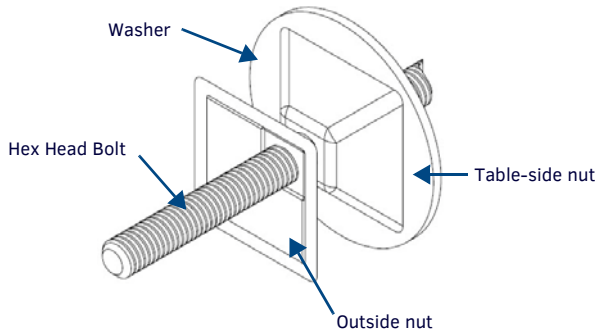
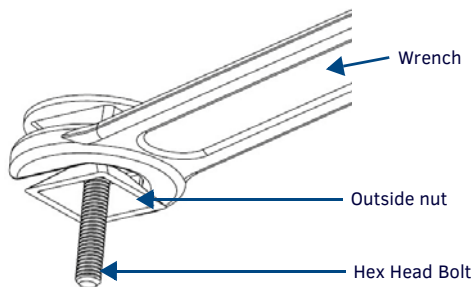

FIG. 8 TAMPER-RESISTANT NUT INSTALLATION, DETAIL
FIG. 9 TIGHTENING OF TAMPER-RESISTANT NUTS, DETAIL
- With the wide side facing away from the table surface, put the spare tamper-proof nut on the end of one of the two bolts and finger-tighten the nut (FIG. 8). With the two nuts touching, use an adjustable-head box wrench to further tighten the table-side nut (FIG. 9). DO NOT OVERTIGHTEN.